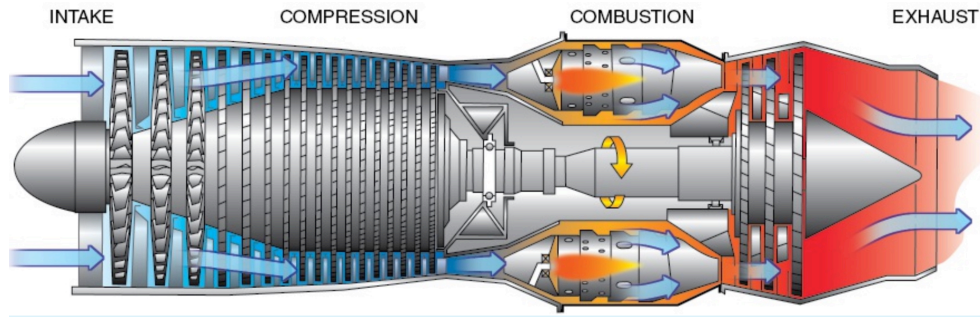

Figure 6: The four-stroke operating cycle of a turbine engine.
- The events in **turbine engines** that converts fuel to thrust are essentially the same as in reciprocating engines, but the processes are done simultaneously. Shown in Figure 6.